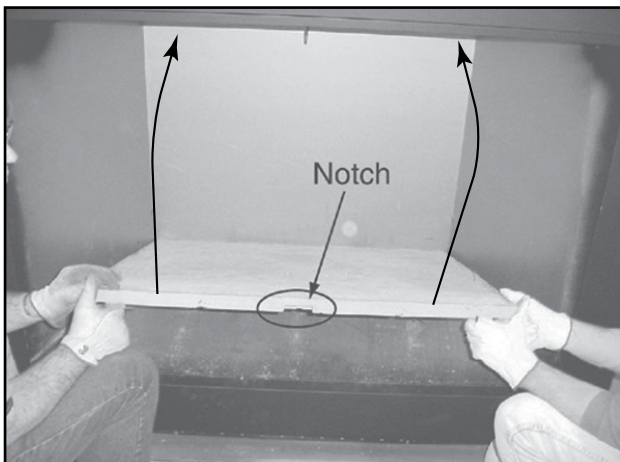

Figure 7.11 Install Back Refractory
- Position the bottom of the back refractory to the back of the fireplace and center from side to side. See Figure 7.11. Be sure to position it so the retainer notch is at the top.